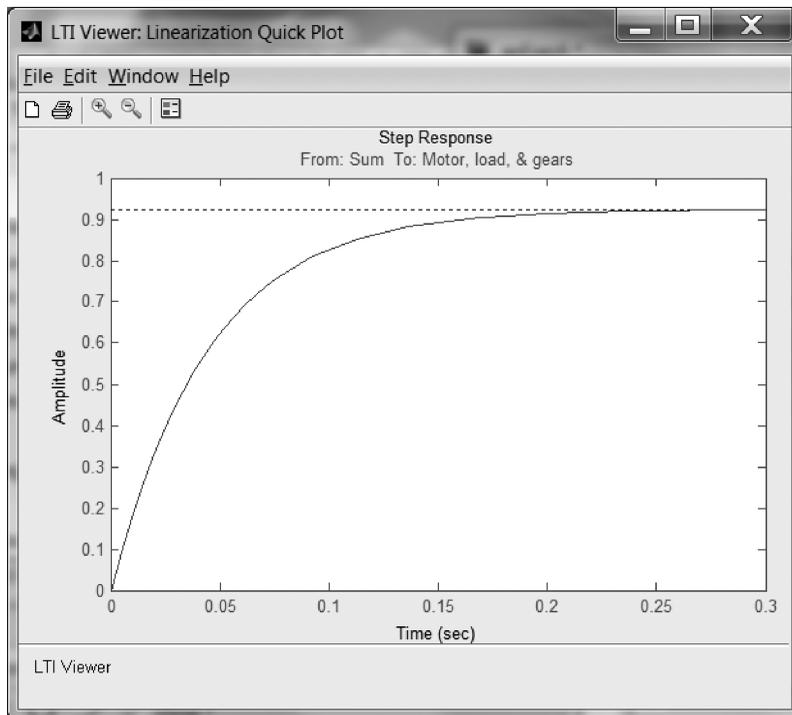

FIGURE E.9 Simulink LTI Viewer after selecting **Linearize Model** from the **Control and Estimation Tools Manager** window
5. **Launch the LTI Viewer** Be sure **Linearization Task** is selected in the outline panel on the left-hand-side of the **Control and Estimation Tools Manager** Window. **Click Linearized Model** at the bottom of the window. In response, the LTI Viewer appears with the step response, Figure E.9.